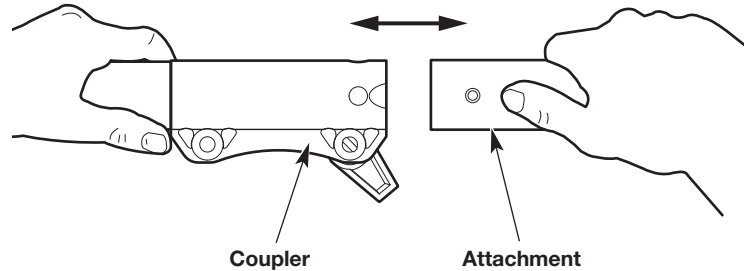
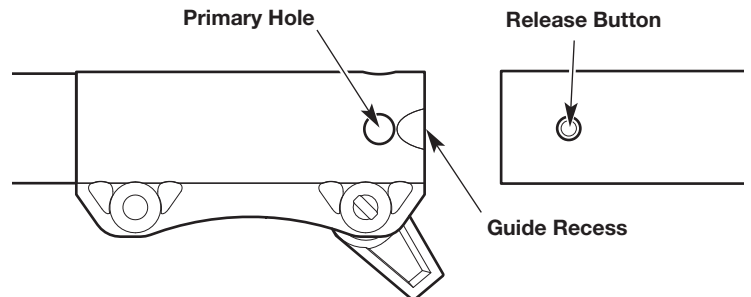

Fig. 12
Fig. 13
4. Align the release button with the guide recess (Fig. 13).
5. Push the attachment straight into the coupler (Fig. 12) until the release button snaps firmly into the primary hole (Fig. 13).
3. Press and hold the release button (Fig. 13).
4. Pull the attachment straight out of the coupler (Fig. 12).